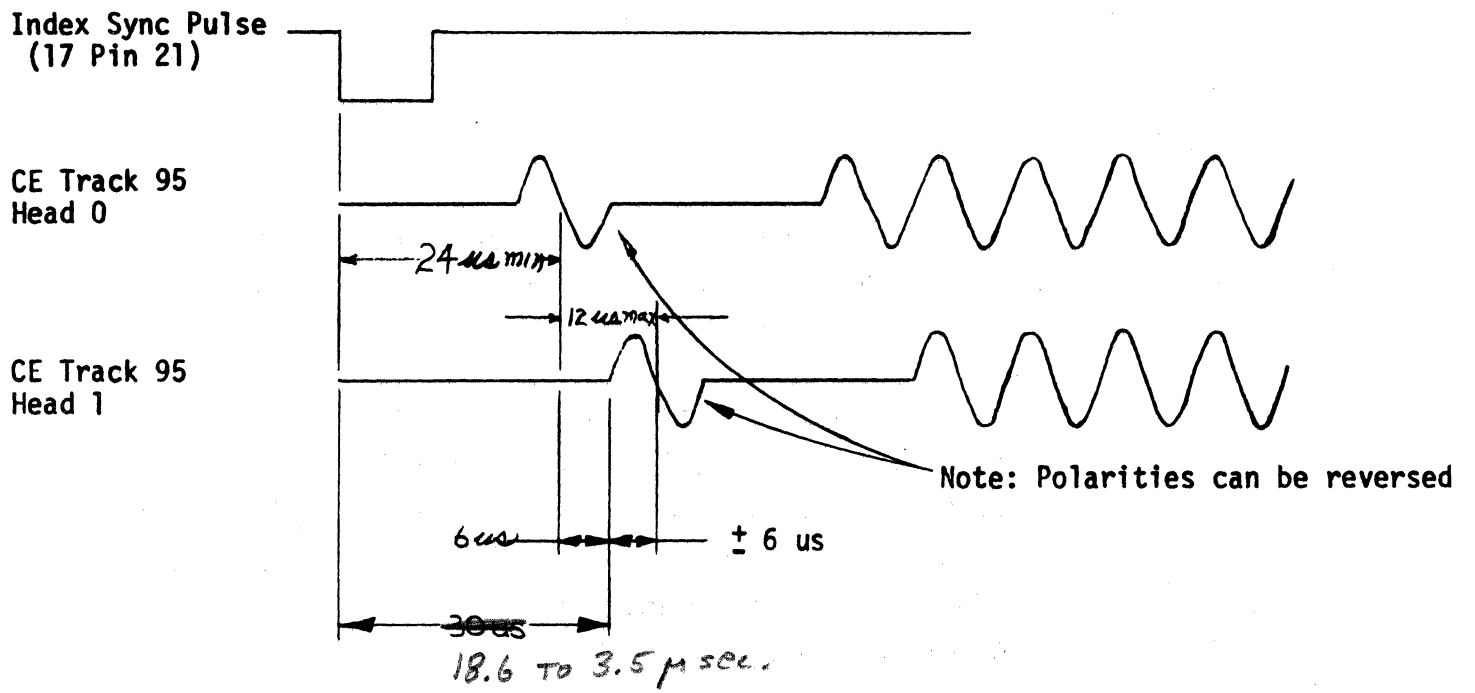

Figure 4-15. Sector Transducer Timing
After head adjustment is made, it will be necessary to back step five tracks to address 95. At this point, the index to data pattern should be seen, see Figure 4-15. If not, the alignment has not been made on disk track 100 – the address of the position.
- (2) Remove the front door.
- (3) Use CE board to position to track 95.
- (4) Use CE board to select a head.
- (5) Use the sector adjustment tool, PERTEC Part No. 105838, to adjust the position of the transducer to obtain the first scope pulse that occurs at 30, 6 micro-seconds, after the trigger. See Figure 4-15.
- (6) Tighten the transducer retaining screws.